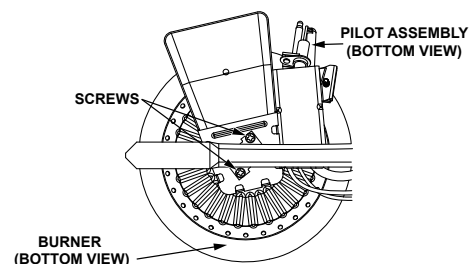

FIGURE 22.
1. Take off the burner by removing the two (2) screws located underneath the burner.
2. Check the burner to see if it is dirty or clogged. The burner may be cleaned with soap and hot water (Figure 22). **IMPORTANT: DO NOT** remove the orifice.
8. Using the pilot screw removed earlier, attach the new pilot/thermopile assembly and the pilot shield. Reattach the burner to the manifold using the screws removed earlier. **NOTE:** Make sure the burner scoop is oriented to the pilot side of the manifold tube (Figure 22).